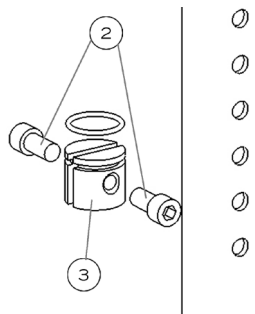

Fig. 23
- Remove screws (2) (Fig. 23).
- Inside the armrest tube, slide the dowel nut with a long flat screwdriver at the desired height (3).
- Reinstall screws (2).